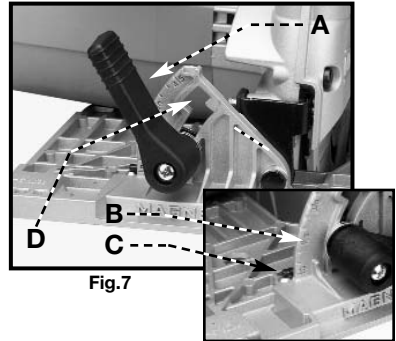

Fig. 7
1. Loosen the bevel adjusting lever (A) Fig. 7.
2. Tilt the saw base until the desired graduation line on the bevel segment (B) Fig. 7 aligns with the indicator (C) Fig. 7 on the bracket.
4. For bevel cuts greater than 45°, set the guide on the 45° mark. Lift the bevel adjusting lever into the slot (D) Fig. 7 and move the saw base to the greater angle. Tighten the bevel adjusting lever firmly.